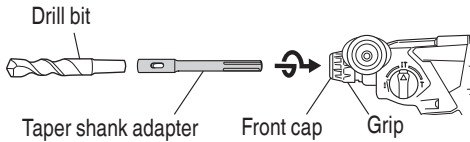
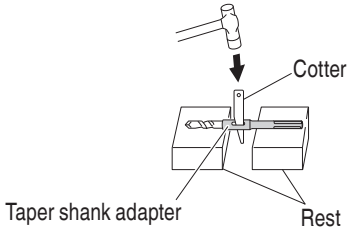

Fig. 23
Fig. 24
- (1) Mount the taper shank adapter to the rotary hammer (Fig. 23).
- (2) Mount the drill bit (taper shank) to the taper shank adapter (Fig. 23).
- (3) Turn the switch ON, and drill a hole in prescribed depth.
- (4) To remove the drill bit (taper shank), insert the cotter into the slot of the taper shank adapter and strike the head of the cotter with a hammer supporting on the rests (Fig.24).